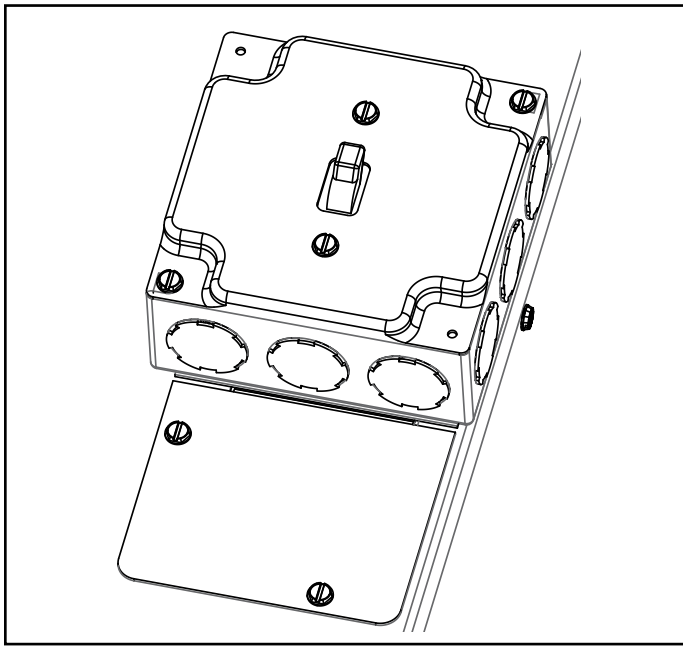

Figure 8.
4. Connect the unit wiring leads to the main power supply or the switch as desired. Securely attach the cover to the junction box. When complete, the junction box should be as shown in Figure 8.